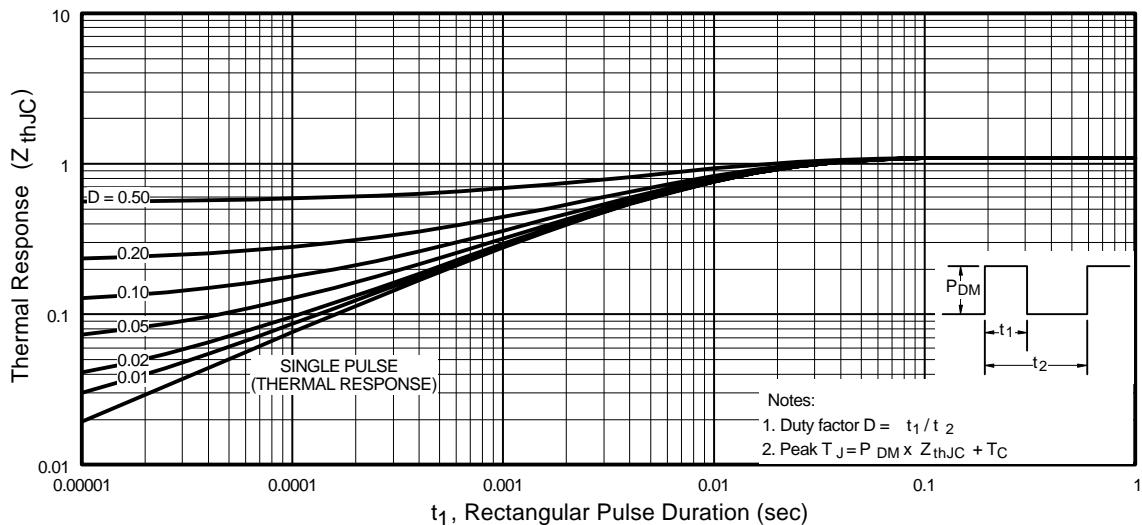

Fig 11. Maximum Effective Transient Thermal Impedance, Junction-to-Case
① Repetitive rating; pulse width limited by max. junction temperature. (See fig. 11)
④ Pulse width $\leq 300\mu\text{s}$; duty cycle $\leq 2\%$.
② Starting $T_J = 25^\circ\text{C}$, $L = 7.1\text{mH}$